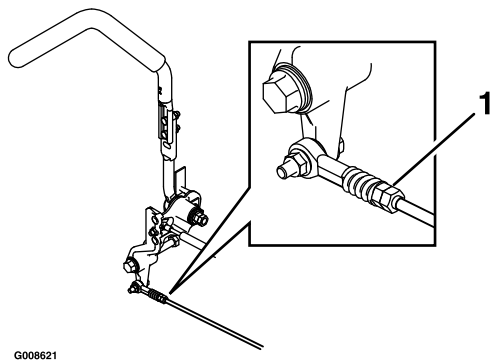

Figure 38
7. Bring the motion control levers into the neutral position. Adjust pump control rod lengths by rotating the double nuts on the rod in the appropriate direction until the wheels slightly creep in reverse (Figure 38). Move the motion control levers to the reverse position and while applying slight pressure to the lever allow the reverse indicator springs to bring the levers back to neutral. The wheels must stop turning or slightly creep in reverse.